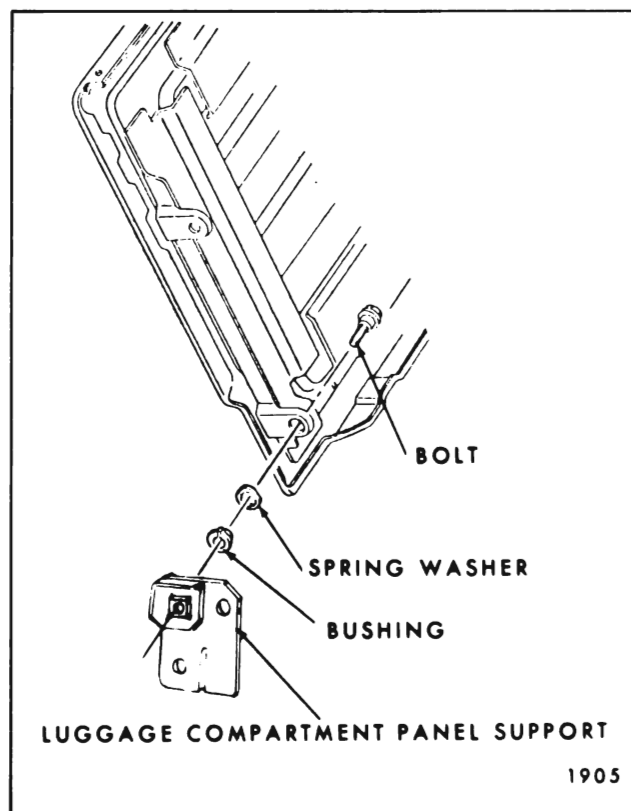

Fig. 15-51—Luggage Compartment Panel Attachment to Body
3. Remove bolt (Fig. 15-51) at both sides of front panel securing front and rear panel assemblies to supports; then remove assembly from body.
4. To install, reverse removal procedure. Make sure bushing and spring washer are properly installed (Fig. 15-51).